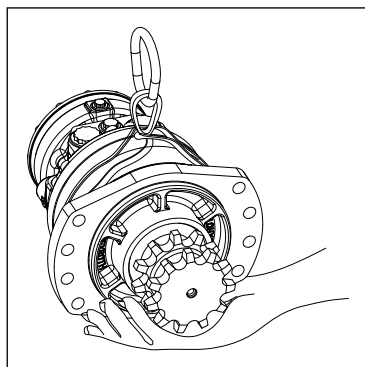

Fig. 16: Transport with lifting sling
- ▶ Ensure the radial piston motor is securely held within the sling by positioning it in such a way that it cannot slip off the end of the motor (Fig. 16).